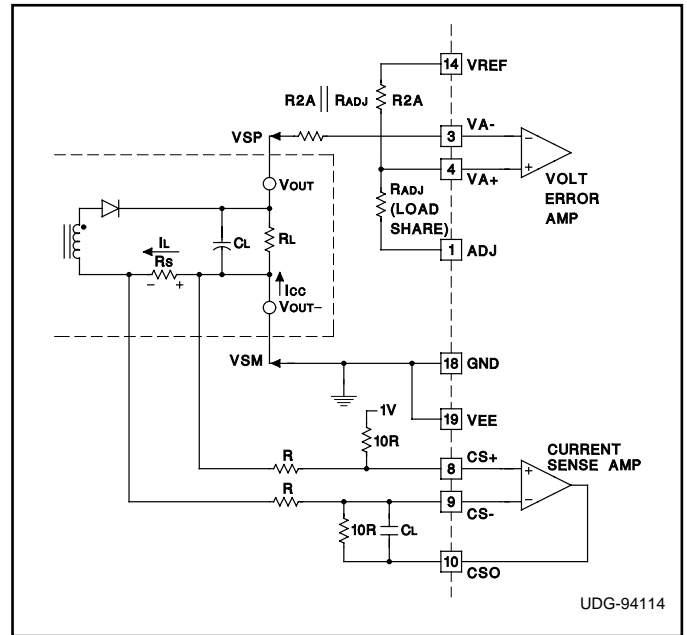

Figure 6. Voltage and Current Sense VEE Tied to GND
**Grounds, Voltage Sensing and Current Sensing:** The voltage is sensed directly at the load. Proper load sharing requires the same sensed voltage for each power supply connected in parallel. Referring to Figure 6, the positive sense voltage (VSP) connects to the voltage error amplifier inverting terminal (VA-), the return lead for the on-chip reference is used as the negative sense (VSM). The current is sensed across the shunt resistor,  $R_S$ .
Figure 6 shows one recommended voltage and current sensing scheme when VEE is connected to GND. The signal ground is the negative sense point for the output voltage and the positive sense point for the output current. The voltage offset on the current sense amplifier is not needed if VEE is separated from GND. VEE is the negative supply for the current sense amplifier. When it is separated from GND, it extends the current sense amplifier's common mode input voltage range to include VEE which is approximately  $-0.7V$  below ground. The resistor  $R_{ADJ}$  is used for load sharing. The unit which is the master will force  $V_{ADJ}$  to  $1.0V$ . Therefore, the regulated voltage being sensed is actually: